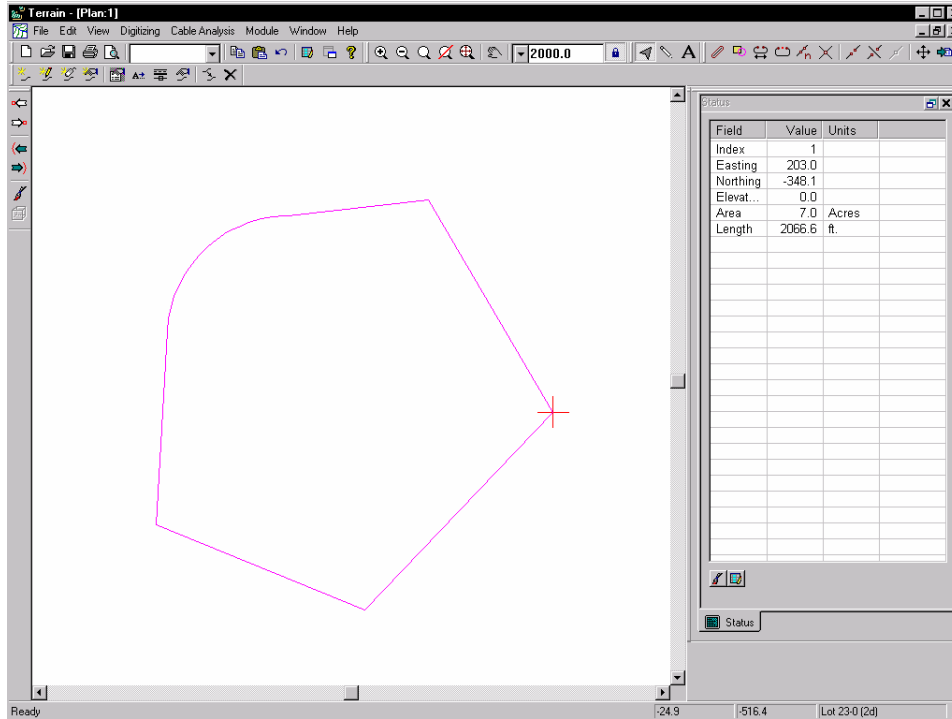

Figure 6.2: Lot Boundary
12. Using the Selection Cursor  click on the second lot corner, identified by the red cross-hair position in the Figure 6.2.